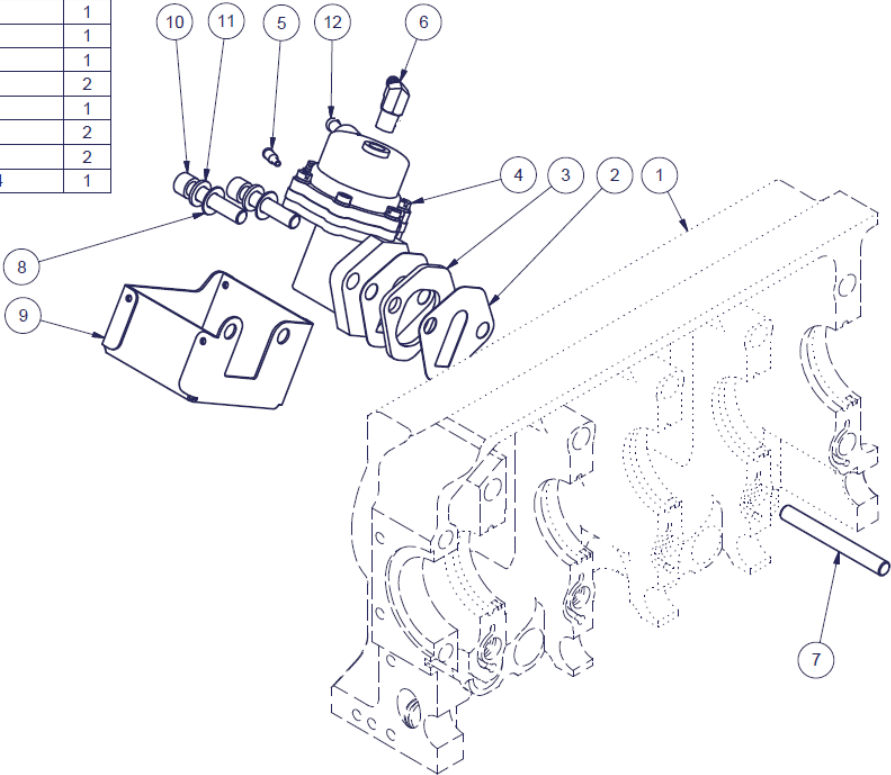

Figure 158 - Mechanical fuel pump installation
- Apply Loctite 263 to the 5/16 x 1 1/2" cap screws and tighten as detailed in Table 9. These screws are fitted with both Belleville and plain washers as show below in Figure 158.